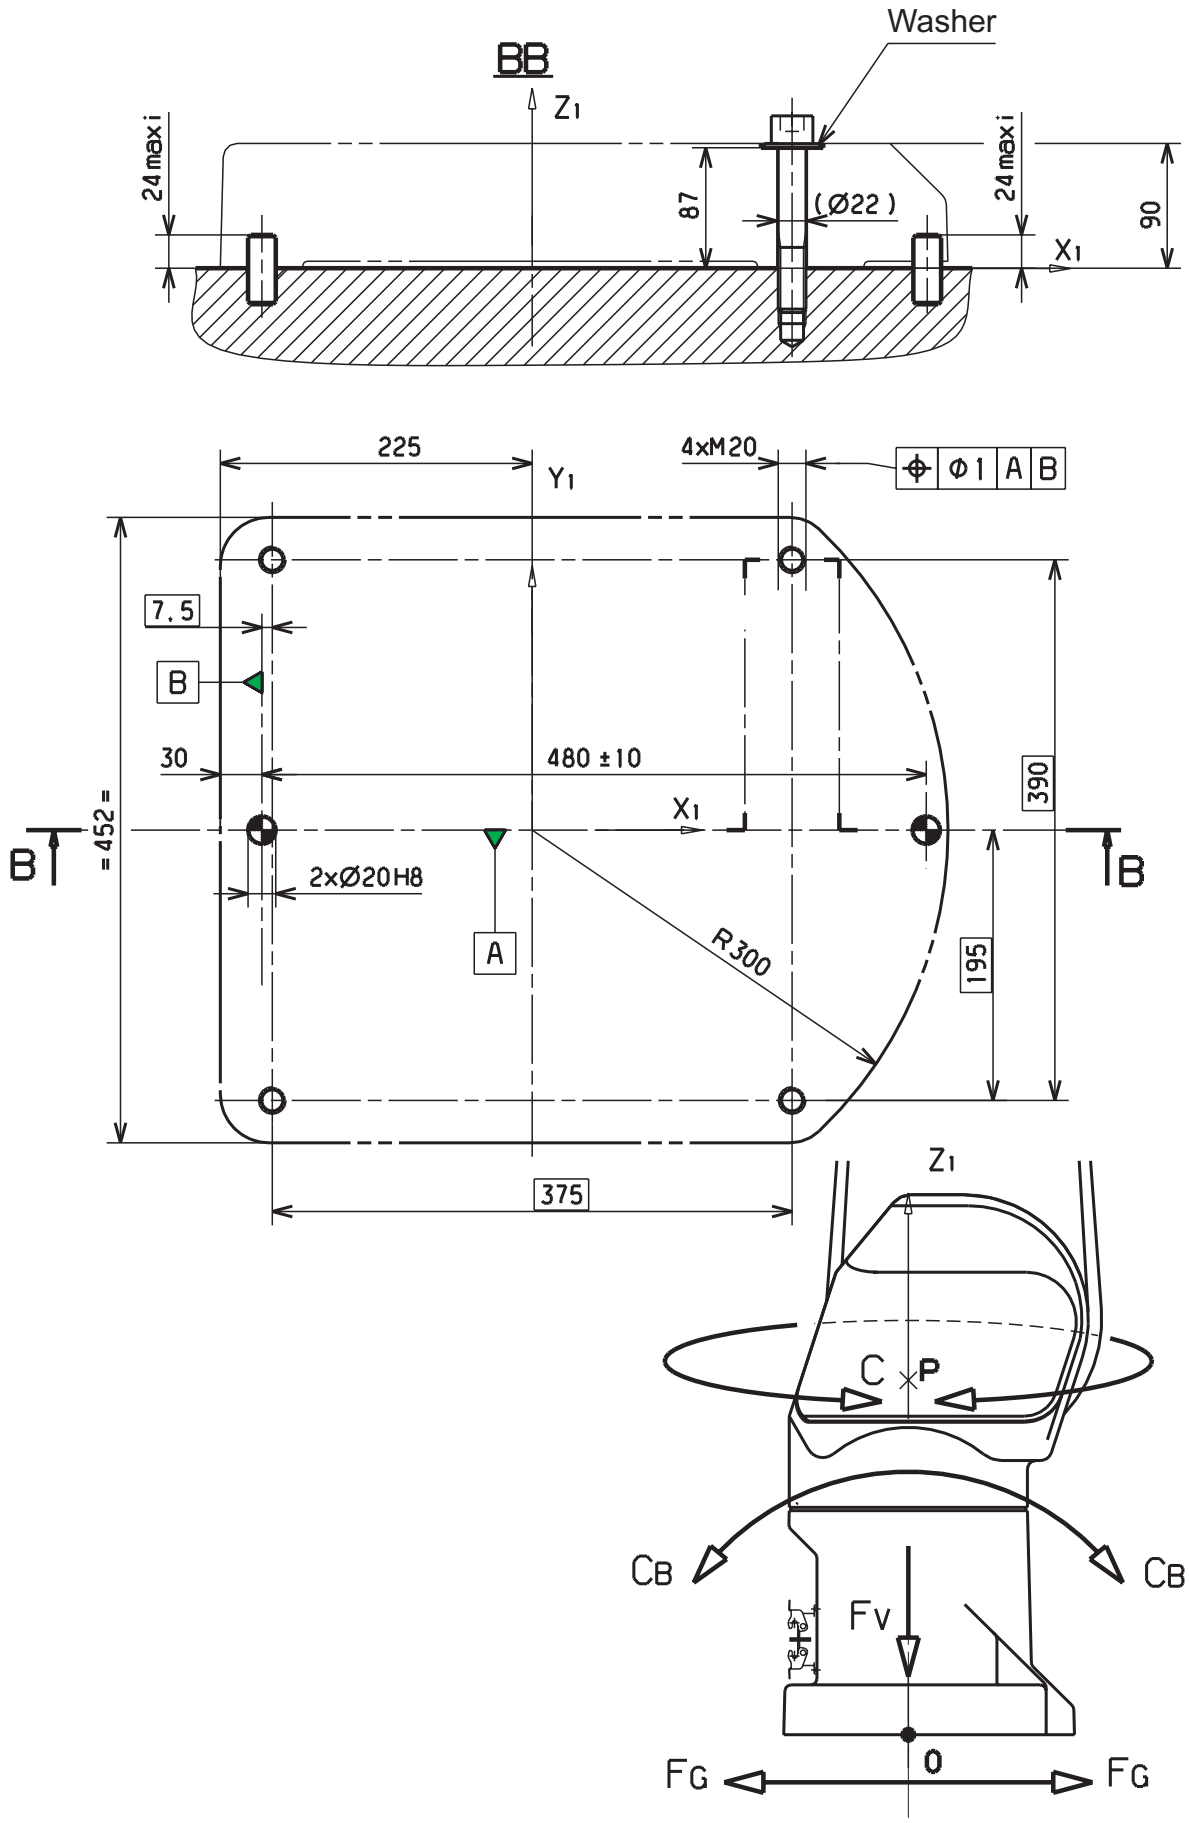

Figure 2.1
2.2. ATTACHMENT (figure 2.1)
To dimension the support, take into account the maximum loads generated by the arm in motion at point 0 (**figure 2.1**) which are: